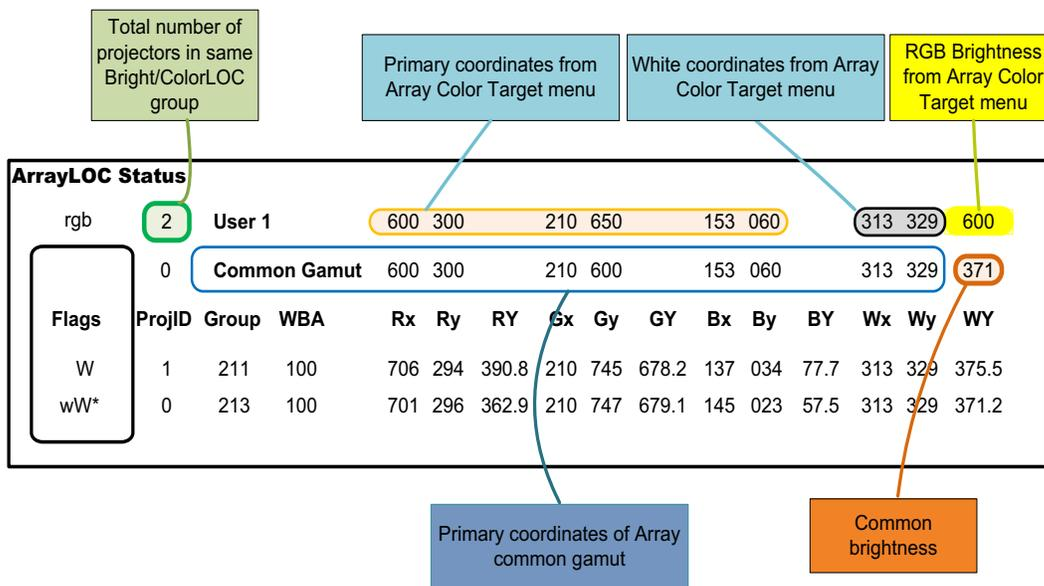

Figure 3-15 ArrayLOC Status
The ArrayLOC status window (Figure 3-15) includes the following information:
1. To note the xy color values reported for the common gamut, navigate to **Main Menu > Configuration > ArrayLOC > ArrayLOC Status**. For example, see **Figure 3-15**.